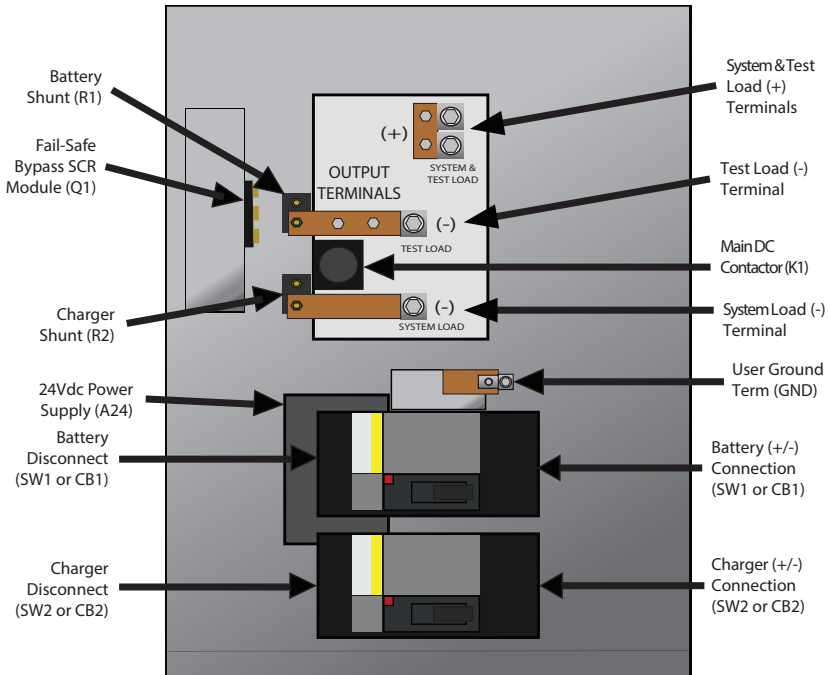

Figure 2-3
The Main DC Contactor (K1) is mounted on the back panel of the Bruno base. See Figure 2-3 below. The contactor is used to isolate the battery from the charger and system loads during certain tests.
The Battery Disconnect Switch (SW1) is mounted on the breaker bracket middle. See Figure 2-3 above. The actuator can be accessed from the front panel door cutout. The Battery Switch (SW1) is used to disconnect the battery from the dc system. An optional 20 kAIC Battery Circuit Breaker (CB1) can be supplied in place of the switch.
The Charger Disconnect Switch (SW2) is mounted on the breaker bracket bottom. See Figure 2-3. The actuator can be accessed from the front panel door cutout. The Charger Switch (SW2) is used to disconnect the charger from the dc system. An optional 20 kAIC Charger Circuit Breaker (CB2) can be supplied in place of the switch.
The 24Vdc Power Supply (A24) is located on the base of the enclosure. See Figure 2-3. The Power Supply is a small dc-to-dc converter, which provides 24 Volts from the system load (+/-) to power Bruno's logic, display, and controls.
Bruno's site battery connection terminal utilizes the right side of the Battery Disconnect Switch (SW1) or Circuit Breaker (CB1). See Figure 2-3. The switch (or breaker) features CU-AL compression lugs.
Bruno's site charger connection terminal utilizes the right side of the Charger Disconnect Switch (SW2) or Circuit Breaker (CB2). See Figure 2-3. The switch (or breaker) features CU-AL compression lugs.
System Load & Test Load Connection Terminals are supplied as part of the phenolic I/O panel assembly, mounted to the back panel of the unit. See Figure 2-3. These terminals are "box type" CU-AL compression lugs. Separate and discrete terminals are supplied for System Load and Test Load negative (-) connections. One (1) common terminal is supplied, with two (2) lugs, for both System Load and Test Load positive (+) connections.
The Safety Bypass Switch (Q1) is a Silicon-Controlled Rectifier (SCR) Module located on the left inside wall of the unit. See Figure 2-3. It is used to protect the system load in the event of a failure of the Main Contactor (K1), and ensures the system loads are never disconnected from the battery and dc power source.
The user Ground Terminal (GND) is located just above the Battery Disconnect Switch (SW1). See Figure 2-3. An optional copper bus bar is available for connection external to the enclosure.
The Battery Shunt (R1) is located above and to the left of the Main Contactor (K1). See Figure 2-3. Connected to the negative(-) test load bus, the shunt measures battery current in the system. A positive(+) value means charging, and a negative(-) value means discharging of the battery.
The Charger Shunt (R2) is located below and to left of the Main Contactor (K1). See Figure 2-3. Connected to the negative(-) system load bus, the shunt measures charger current in the dc system.